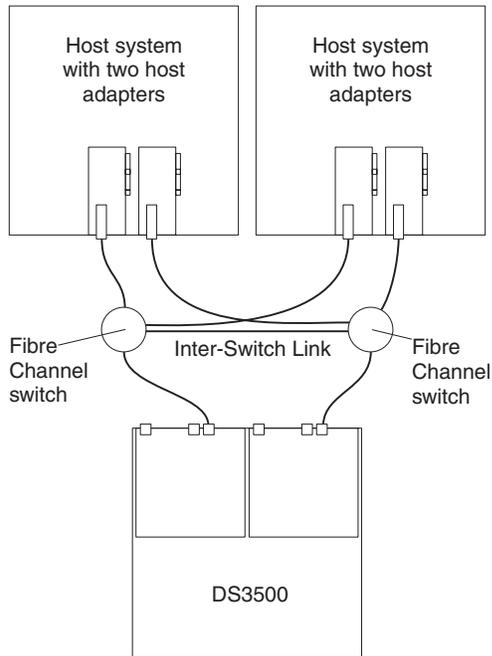

Figure 54. Example of a single Fibre Channel SAN fabric configuration
- Single SAN fabric configuration, as shown in Figure 54 on page 58
In Figure 54 on page 58, the Fibre Channel switches are connected together through the Inter-Switch Link (ISL) to form a single SAN fabric.